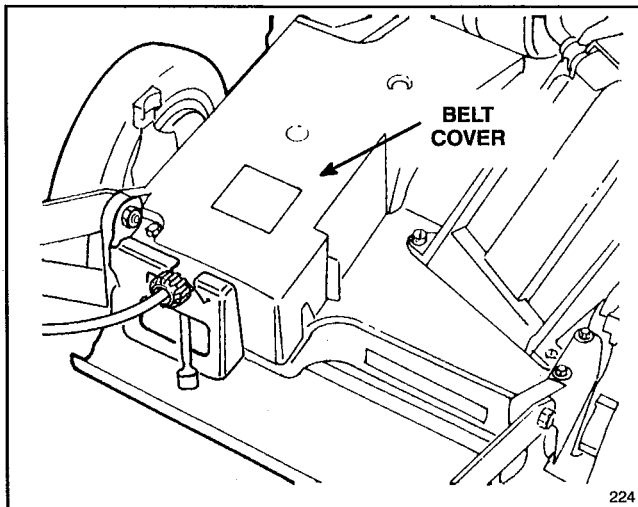

Figure 34
1. With engine turned off, remove screws securing belt cover to mower housing (Fig. 34). Lift off cover and brush out all debris from belt area. Reinstall belt cover.